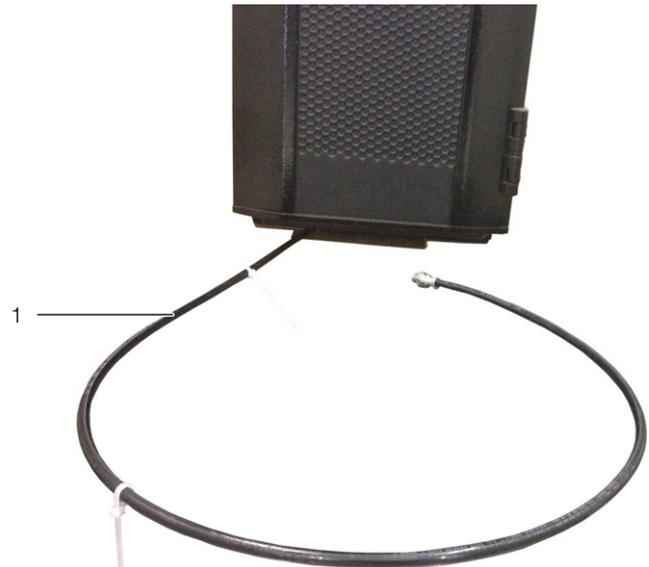

Fig. 22: Condensate discharge
Any condensate which may develop is collected in the condensate collecting tray (fig. 22, item 2) beneath the heat exchanger.
The LCP DX is additionally equipped with a condensate discharge (fig. 22) via which the condensate is pressurelessly routed out of the LCP DX.